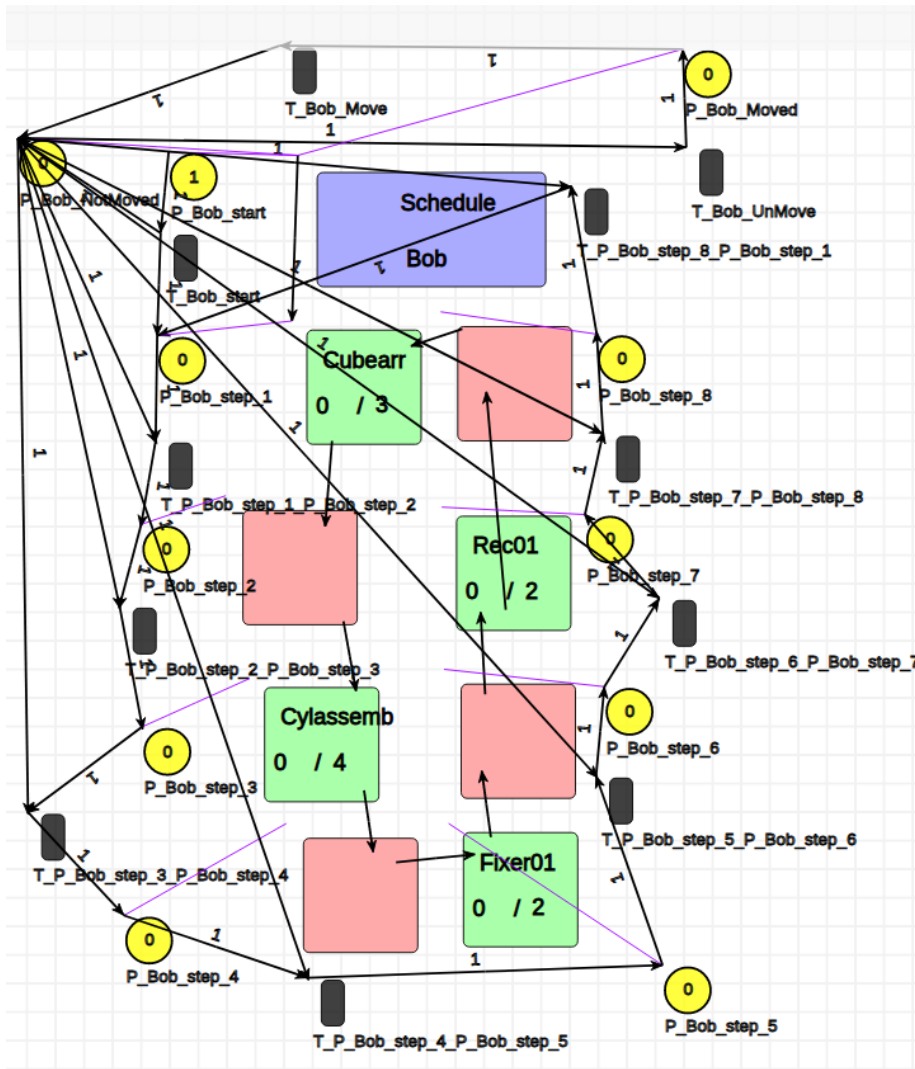

Figure 1: An example of a schedule and the created Petri Net.
- Figure 1 shows the schedule for a production system and the generated Petri net.